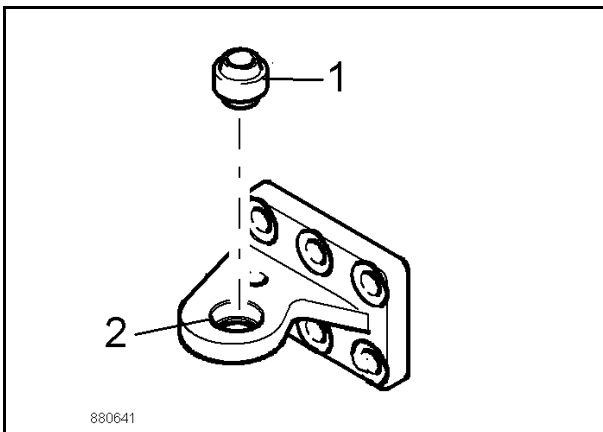

Fig. 6
8. Knock the rocker bearing 1 (Fig. 6) out of the cylinder eye (2).